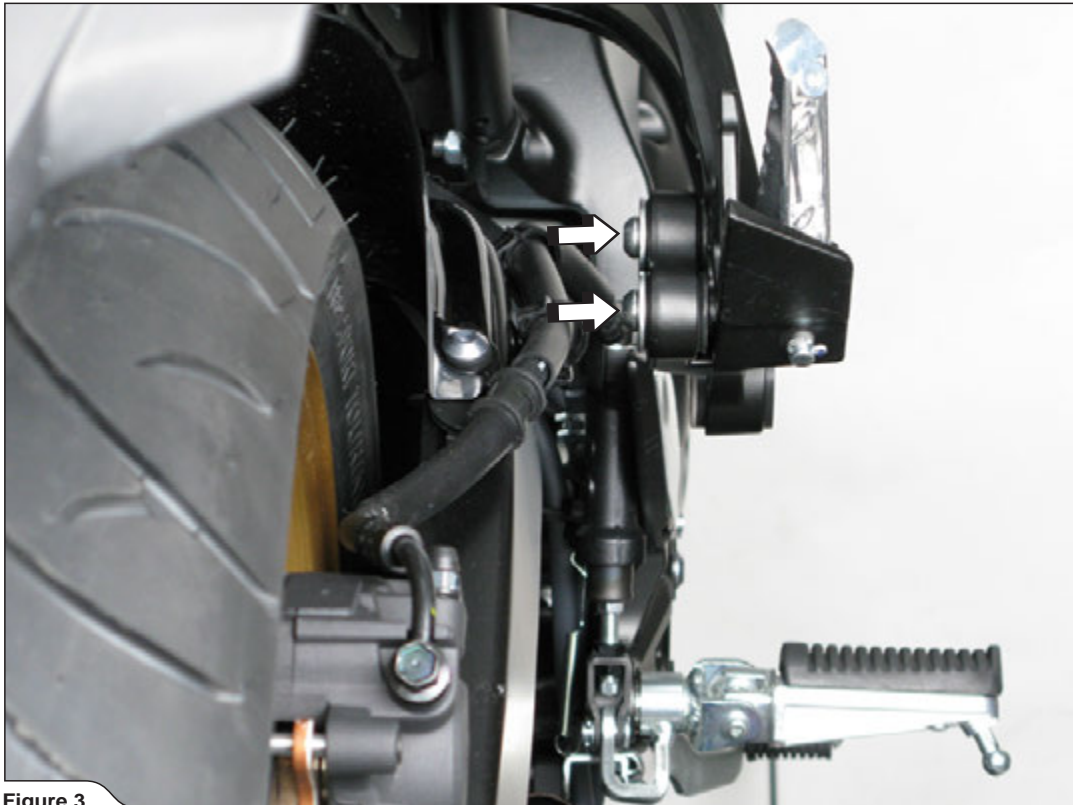

Figure 3
3. Loosen the marked bolts and remove the stock muffler bracket off the motorcycle (Figure 3, 4).